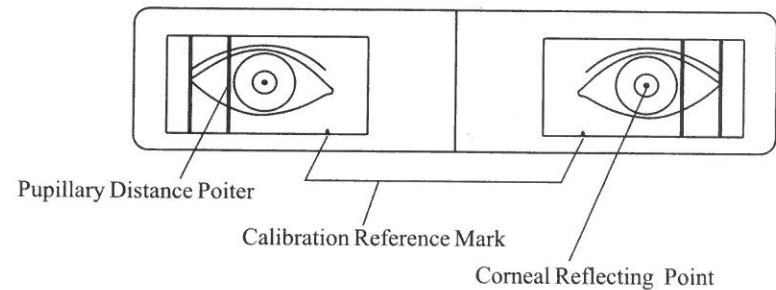
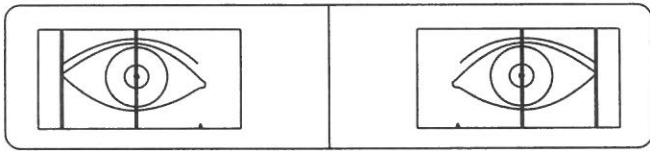

Fig.7a (The sight the tester observes through measuring window)
Fig.7b (The left and right pointers coincide with the reflecting bright dots)
**4.3.4** The tester observes the reflecting light spot on the testee's pupil through measuring window. Slide the Left and Right Pupils Measuring Keys, the left and right pupillary distance pointers will coincide with the reflecting light spots of the testee's left and right pupils, respectively(as shown in Fig.7a and Fig.7b ). The data shown in the display window are the measured pupillary distance.